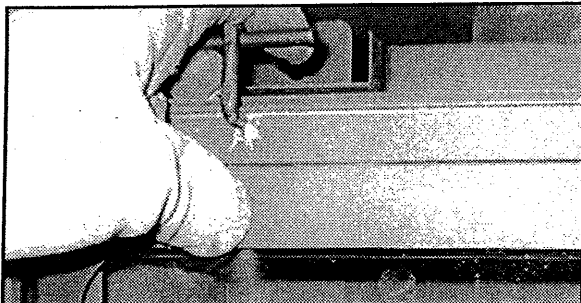
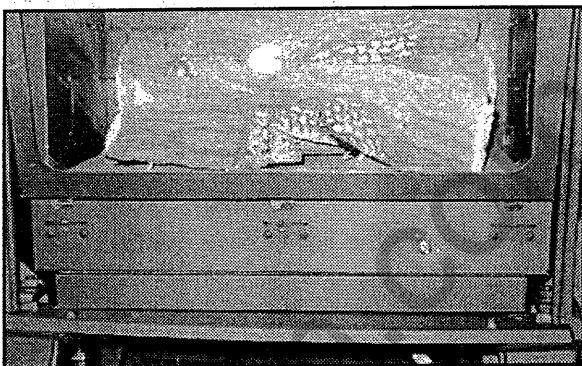

Figure 20
Figure 21
3. Remove the glass frame assembly by pulling the latch releases forward and lifting up. See Figure 20. Lift the glass frame assembly up, removing the three (3) tabs at the bottom from the slots. See Figure 21.